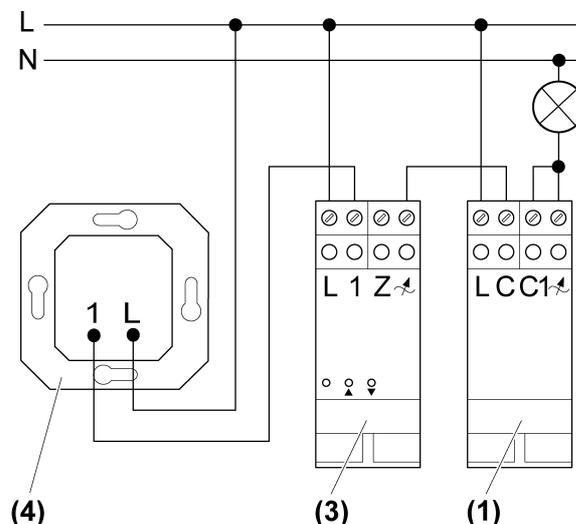
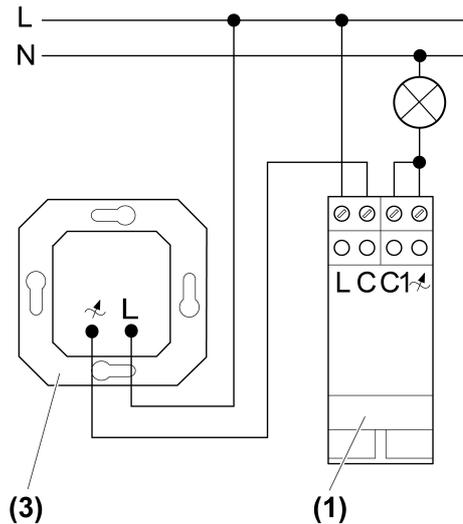
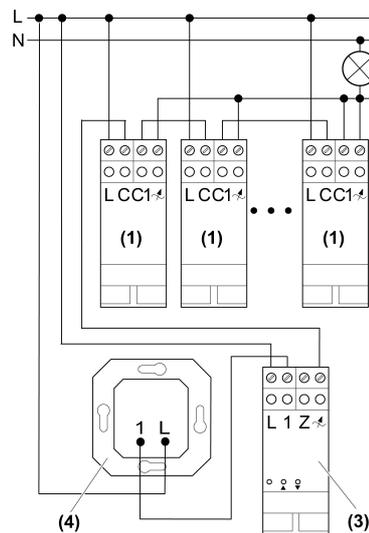

Figure 2: Connection diagram with RMD dimmer
Figure 3: Connection diagram with FM dimmer
Figure 4: Connection diagram with multiple power boosters
(1) Power booster
(3) Dimmer
(4) Local extension
- Connect the power booster according to the connection diagram, connection diagram with RMD dimmer (Figure 2), connection diagram with FM dimmer (Figure 3) or connection diagram with multiple power boosters (Figure 4).